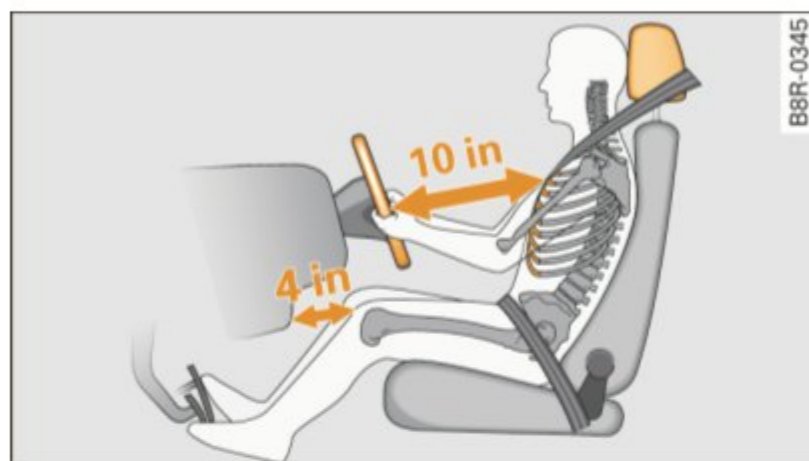

Fig. 172 Correct seating position
- Adjust the steering wheel so that there is a distance of at least 10 inches (25 cm) between the steering wheel and your breast bone ⇒ fig. 172. If not possible, see your authorized Audi dealer about adaptive equipment.